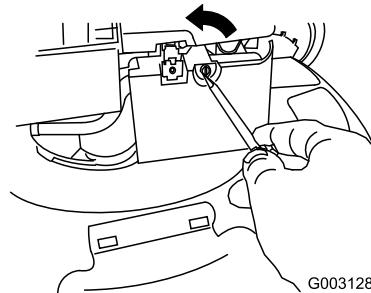

Figure 32
- Use a screw driver to open the air-filter cover (Figure 32).